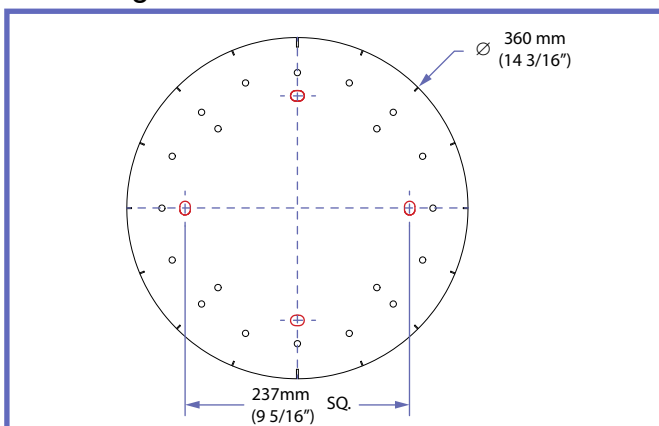

Fig.21
- 2) Use a plumb laser to pinpoint the turntable mounting location on the ceiling. (Refer to the track installation manual for further information). There are four mounting points on the turntable. Refer to Fig.21 to locate drilling location.
- Use the four holes, as shown on Fig.21.